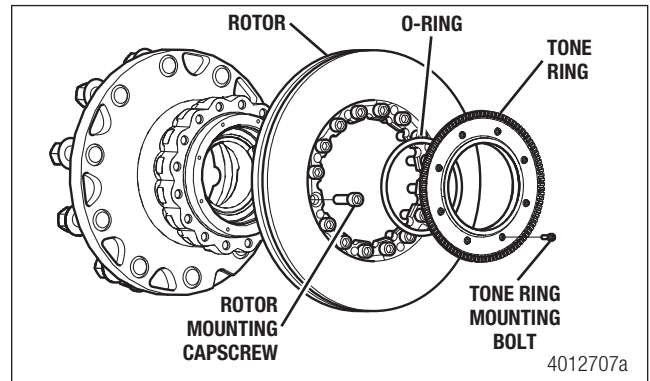

Figure 13.11
1. Prior to installing the tone ring to the hub, install a new o-ring into the groove on the back face of the tone ring. Figure 13.11.